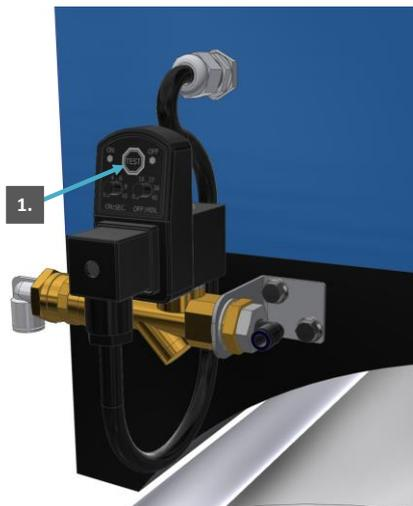

Figure 29. condensate drain on compressor connected to compressor
2. A light will be on at the timer, press test (Figure 29 No. 1).